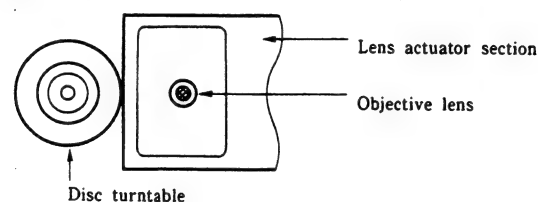

Fig. 11
3. Inspection of the objective lens (Fig. 11)